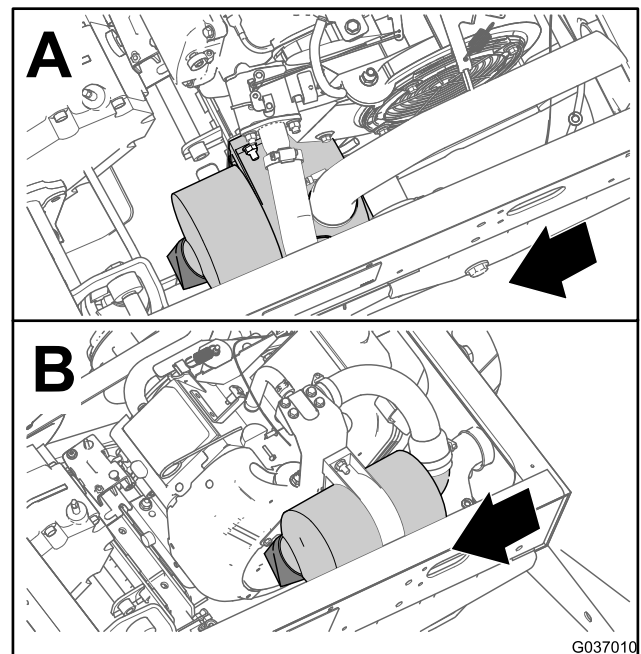
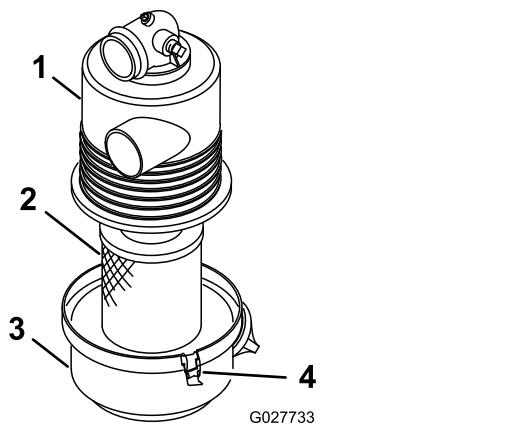

Figure 29
Figure 30
2. Check the air-cleaner body for damage which could possibly cause an air leak (Figure 29 and Figure 30).
3. Insert the air-filter element into air-filter housing (Figure 30).
4. Align the air-filter cover with the air-filter housing (Figure 30).
5. Secure the cover to the housing with the latches (Figure 30).
3. Release the latches securing the air-filter cover to the air-filter housing (Figure 30).
4. Separate the air-filter cover from the air-filter housing, and clean the inside of the cover (Figure 30).